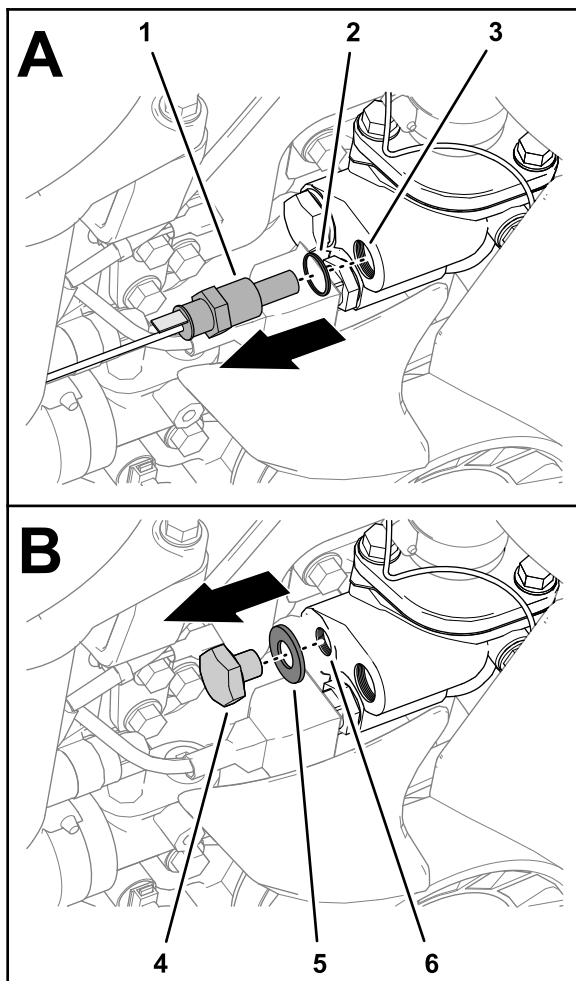

Figure 23
2. Remove the temperature sensor and gasket from the rear port of the water pump (Figure 23).
3. Remove the plug and gasket from the forward port of the water pump (Figure 23).